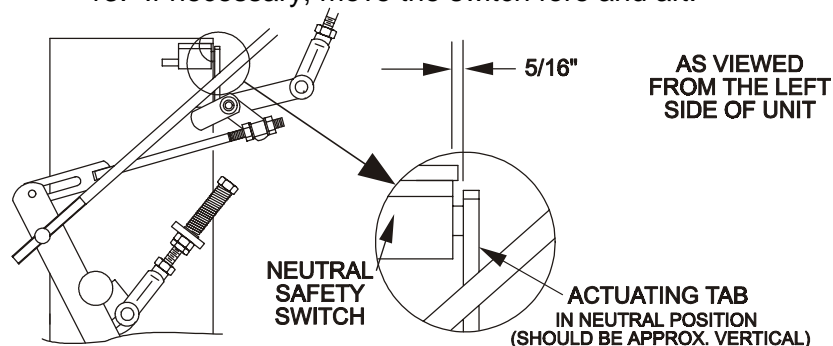

FIG. 13
3. Pull the speed control lever back to neutral. Check that the neutral safety switch actuating tab has depressed the plunger of the switch so that there is about 5/16" between the tab and the switch. See Fig. 13. If necessary, move the switch fore and aft.